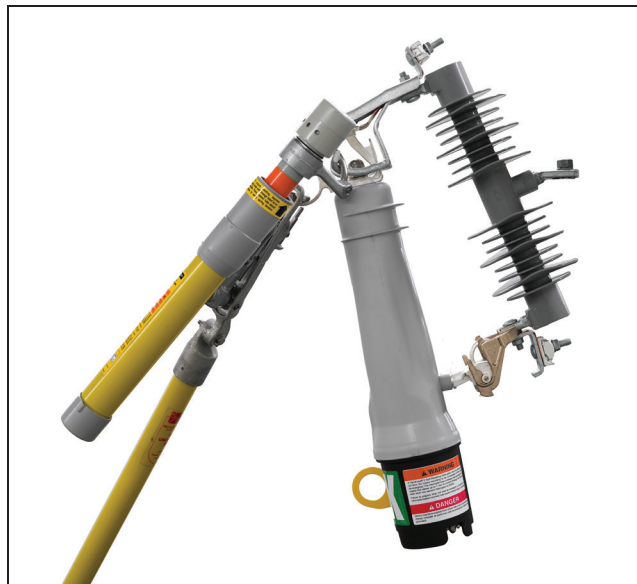

Figure 19. The loadbuster tool attached to a VacuFuse II Self-Resetting Interrupter in the Closed position.
STEP 3. Swing the Loadbuster tool toward the VacuFuse II Self-Resetting Interrupter and pass the Loadbuster pull-ring hook through the pull-ring on the VacuFuse II Self-Resetting Interrupter. The pull-ring latch will deflect and, upon complete entry of the pull-ring, will spring back, locking the Loadbuster tool to the pull-ring. The Loadbuster tool is now connected across the upper contacts of the VacuFuse II Self-Resetting Interrupter, as shown in Figure 19.